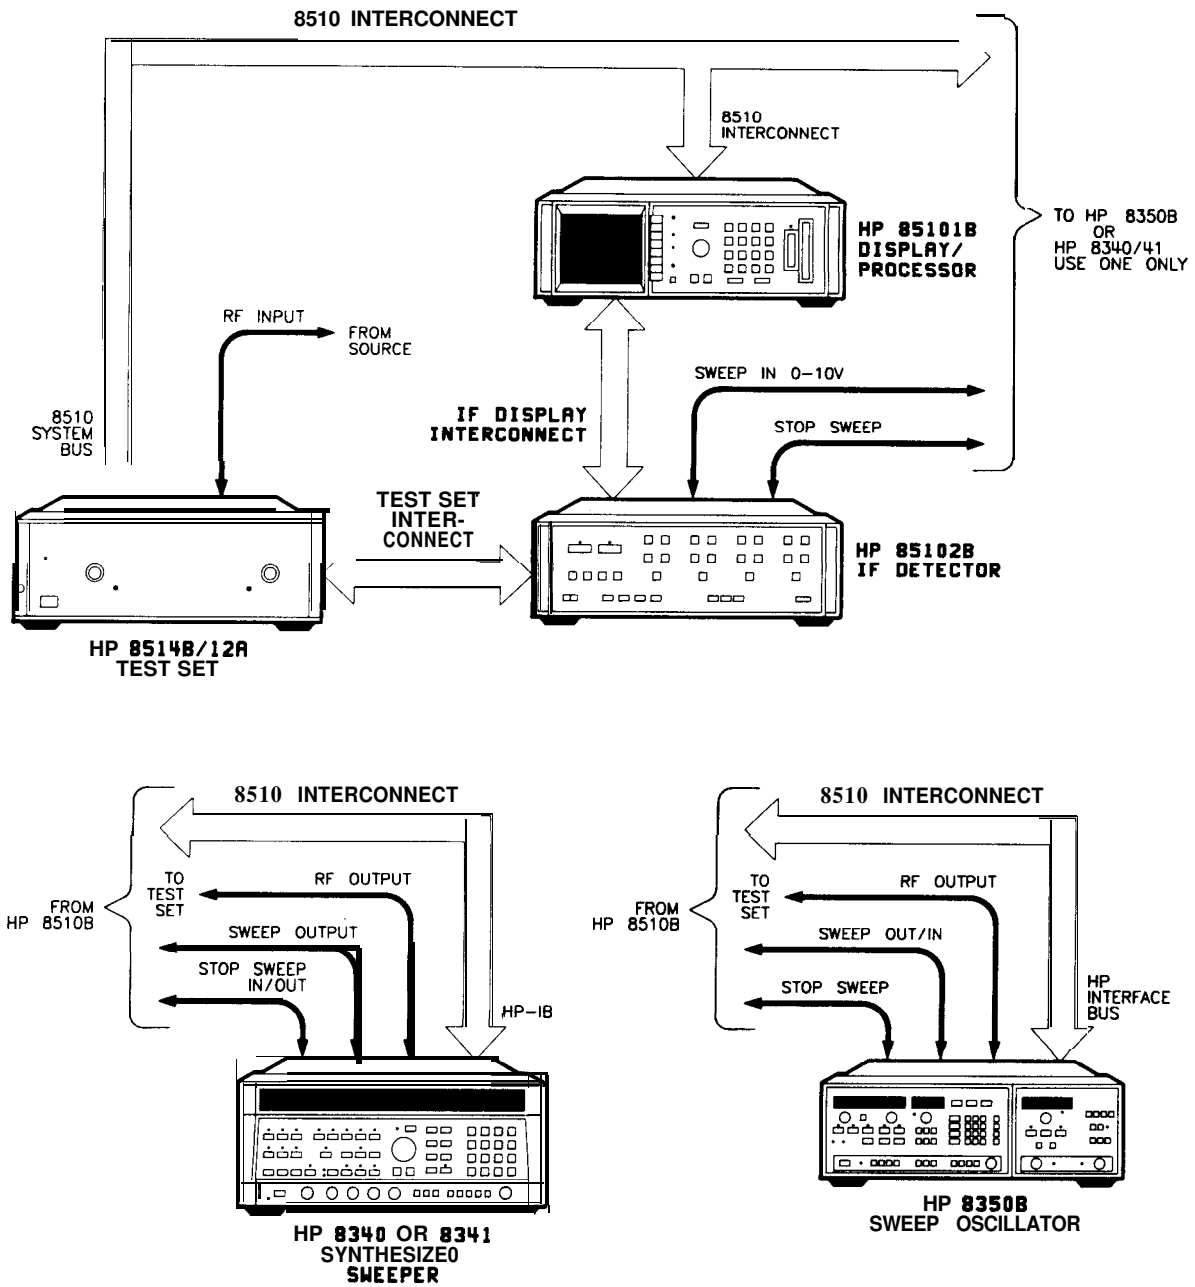

Figure 2-4. HP 8514B and 8512A System Connections
**Power and Control Connections.** Figure 2-4 shows the following connections (with the exception of line power) and the required RF source connections.